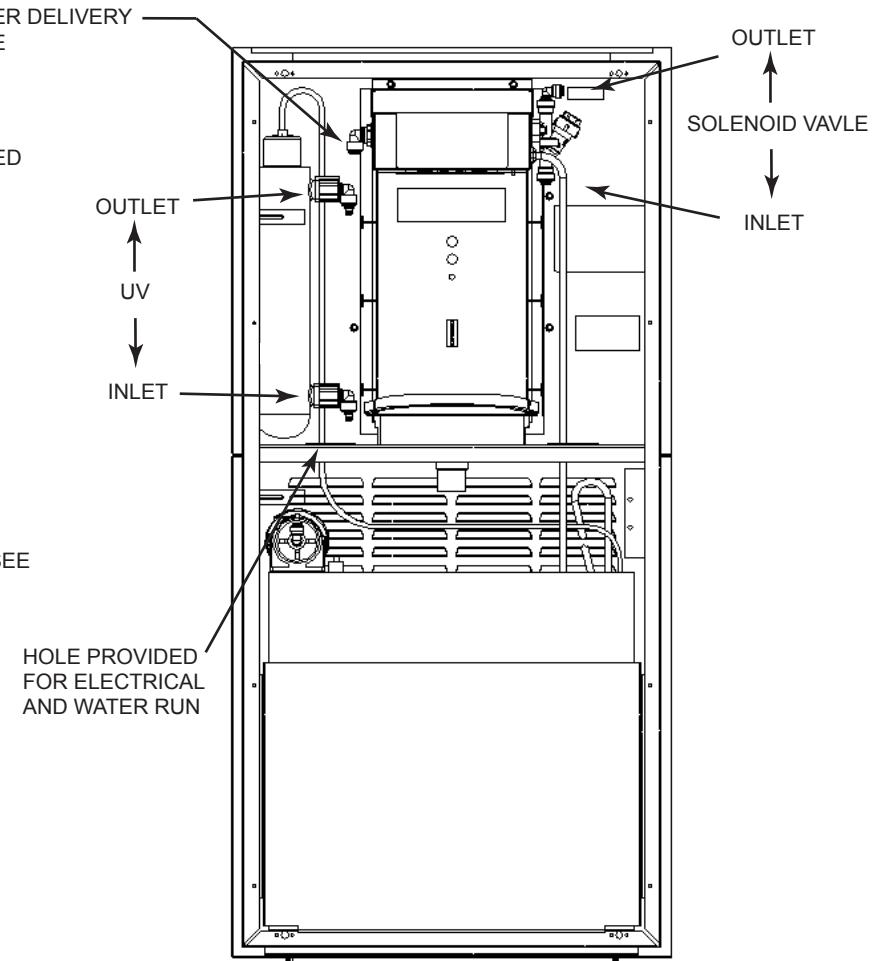

FIG. 9
- (E) RUN UV POWER CORD CONNECTION THROUGH HOLE PROVIDED IN FRAME. CONNECT UV BULB TO POWER SUPPLY CORD AND INSERT BULB INTO UV HOUSING. SEE FIG. 9 AND 10 FOR DETAILS.